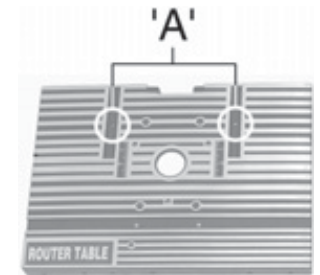

Fig. 5
4.7 Attach the fence assy (Item 4), using hex head bolt, washer and knob supplied. Insert the bolts from the underside of the table through the holes marked 'A' (Fig. 5). Place the fence on the bolt and secure in position with washer and locking knob.
Place one of the bearers onto the baseboard as centrally as possible over two of the holes Fig. 5.